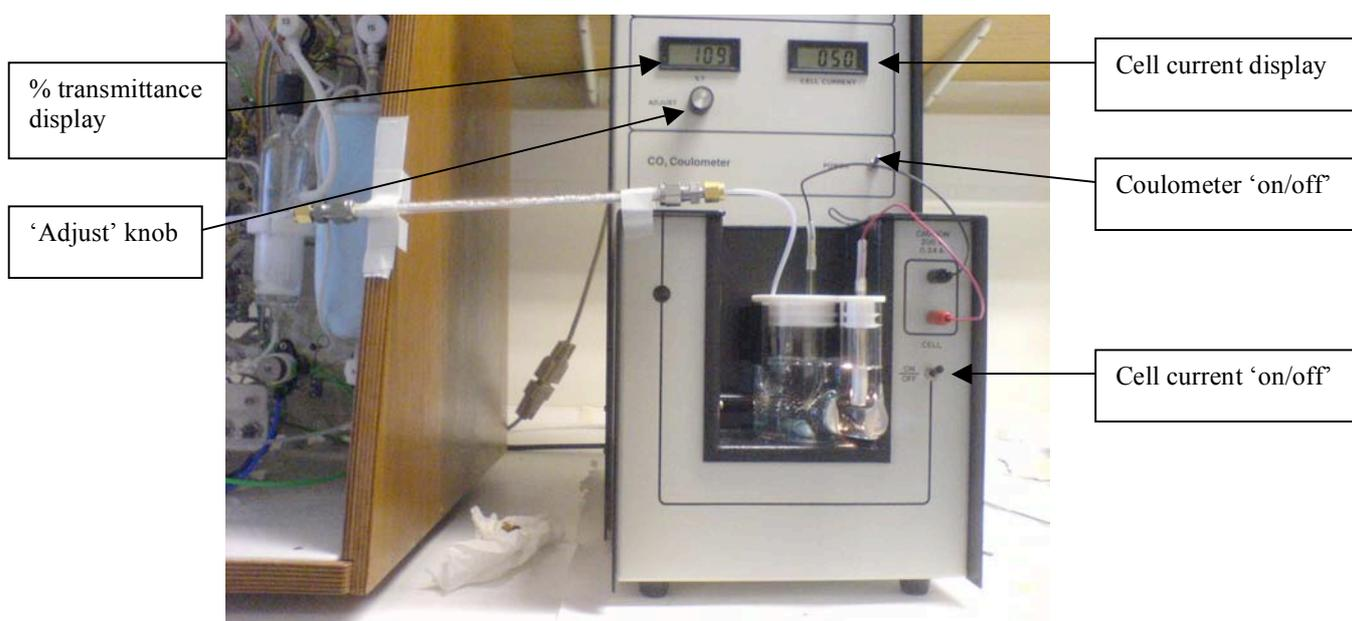

Figure 1.2 The UIC coulometer with coulometer cell in place
- 4) Turn on Coulometer at socket and power switch (Figure 1.2). DO NOT turn on the cell current. The adjust knob should be turned fully clockwise on unit 011. On unit 024 press E enter.
- Anode (small) – Add anode solution to smaller cell to a level just below that of the cathode solution and add potassium iodide (KI) crystals (a small deposit at the bottom is enough).